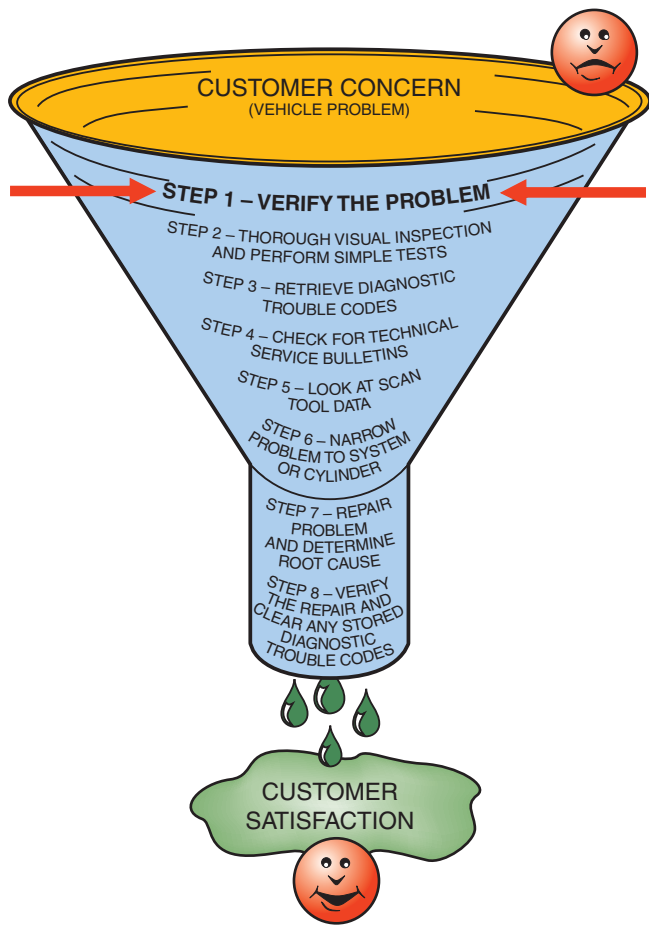

FIGURE 40-2 Step #1 is to verify the customer concern or problem. If the problem cannot be verified, then the repair cannot be verified.
STEP 1 VERIFY THE PROBLEM (CONCERN) Before a minute is spent on diagnosis, be certain that a problem exists. If the problem cannot be verified, it cannot be solved or tested to verify that the repair was complete. ● **SEE FIGURE 40-2.**